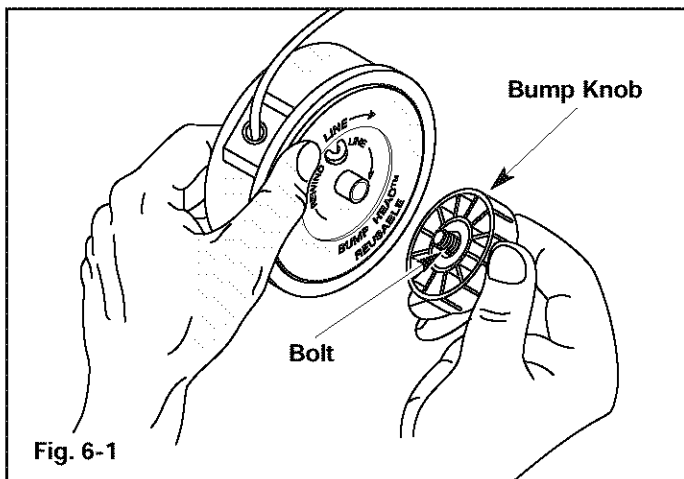

Fig. 6-1
1. Hold the outer spool with one hand and unscrew the bump knob counterclockwise (Fig. 6-1). Inspect the bolt inside the bump knob to make sure it moves freely. Replace the bump knob if damaged.